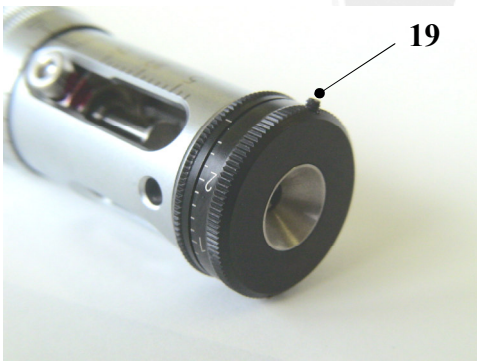

Fig. 19
- Push centering scale **(17)** with a slight turning movement to the stop but do not yet tighten screw **(19)** (black) Fig. 19.